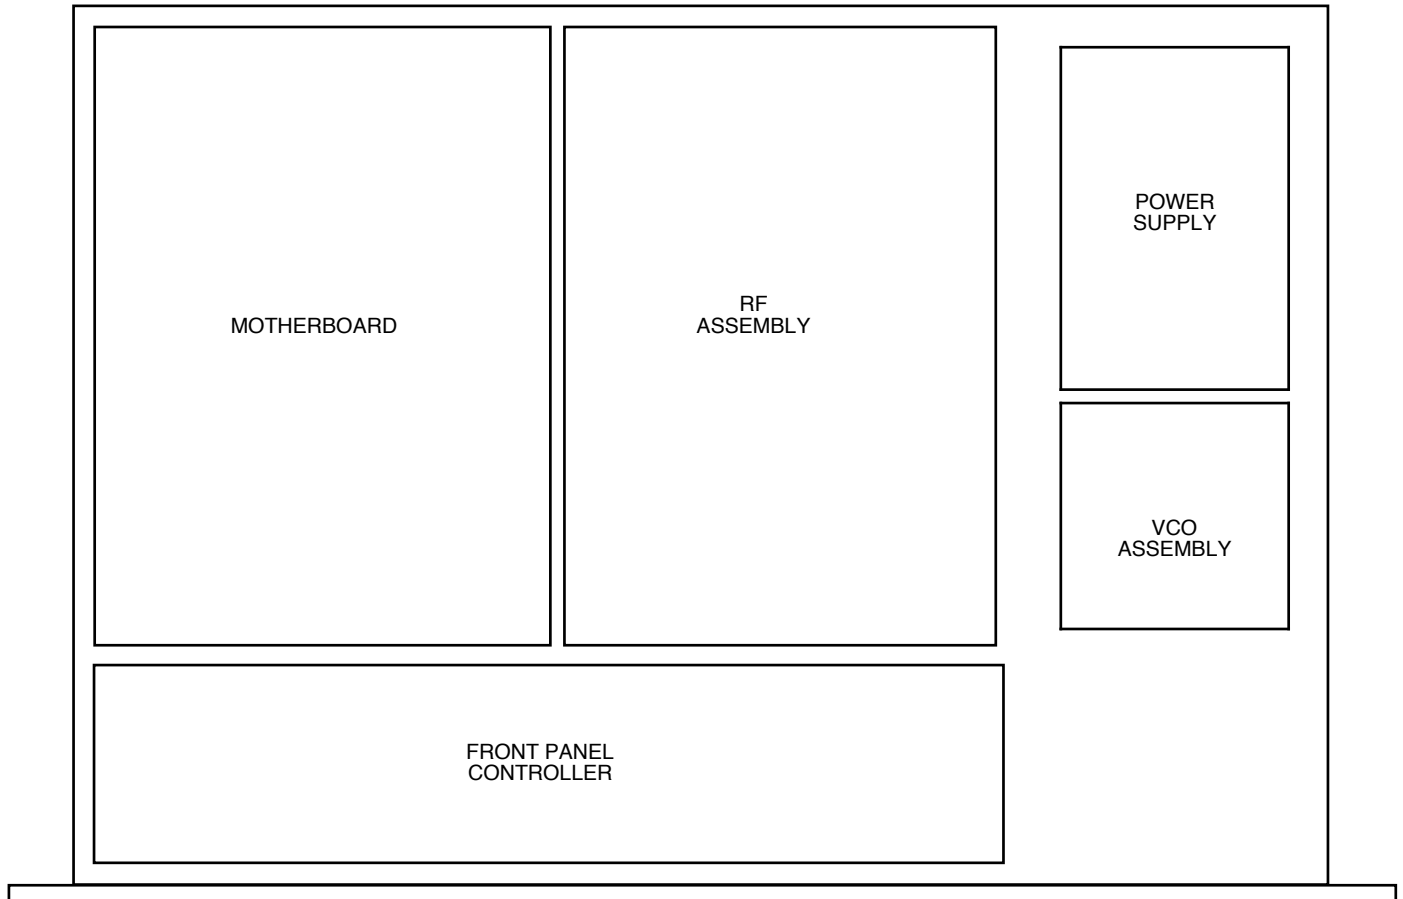

FIGURE 2.0 3116-64T42 Mechanical Assembly
2.1 Mechanical - The 3116-64T42 Multi-Band Block Translator consists of a controller board and RF plate assembly. A switching ± 12 , $+24$, $+5$ VDC power supply provides power for the assemblies. The 3116-64T42 can be secured to a rack using the 4 holes on the front panel. Figure 2.0 shows how the 3116-64T42 is assembled.